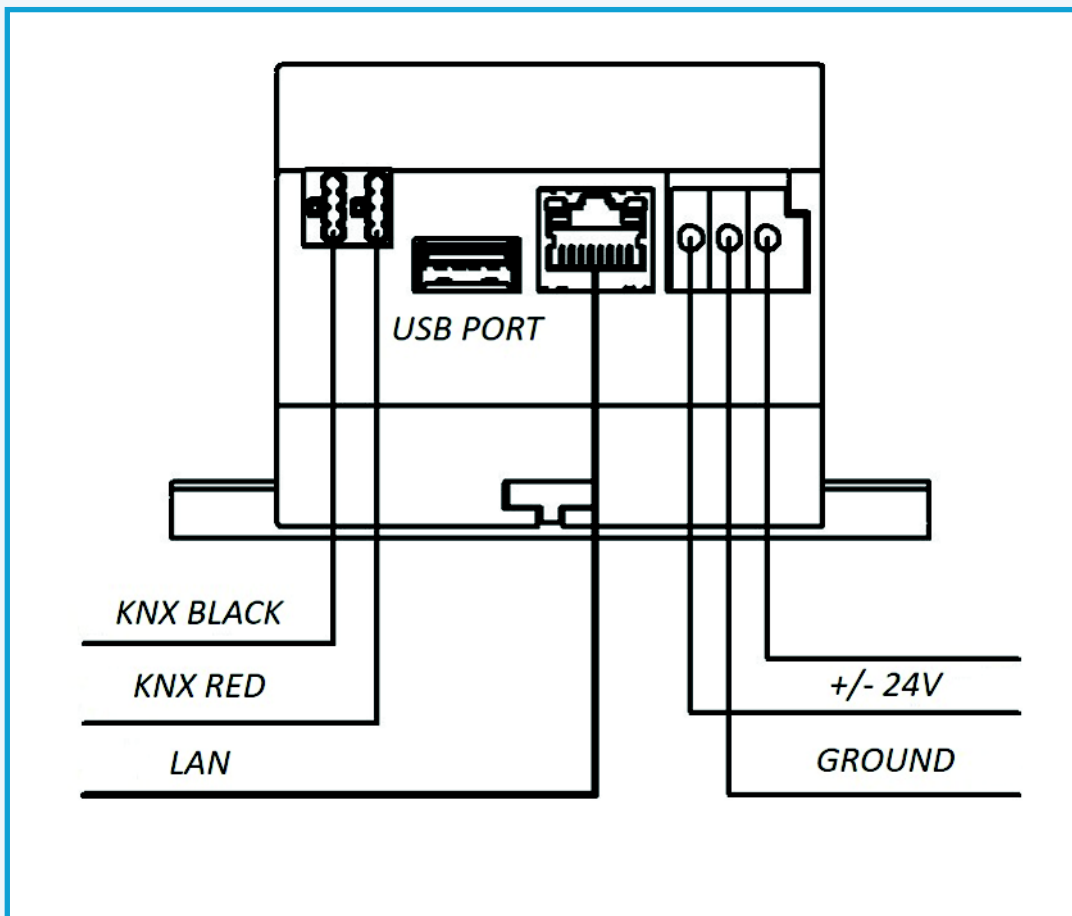

Figure 6.2 - Connecting the controller
- 6.4 Controller is connected according to the schematic shown in Figure 6.2. The polarity of the voltage is not important. Cross-section of cable for power connections must be not more than  $2\text{mm}^2$  (14AWG). To connect the KNX use single-core cable with a cross-section of no more than  $0.52\text{mm}^2$  (20 AWG).